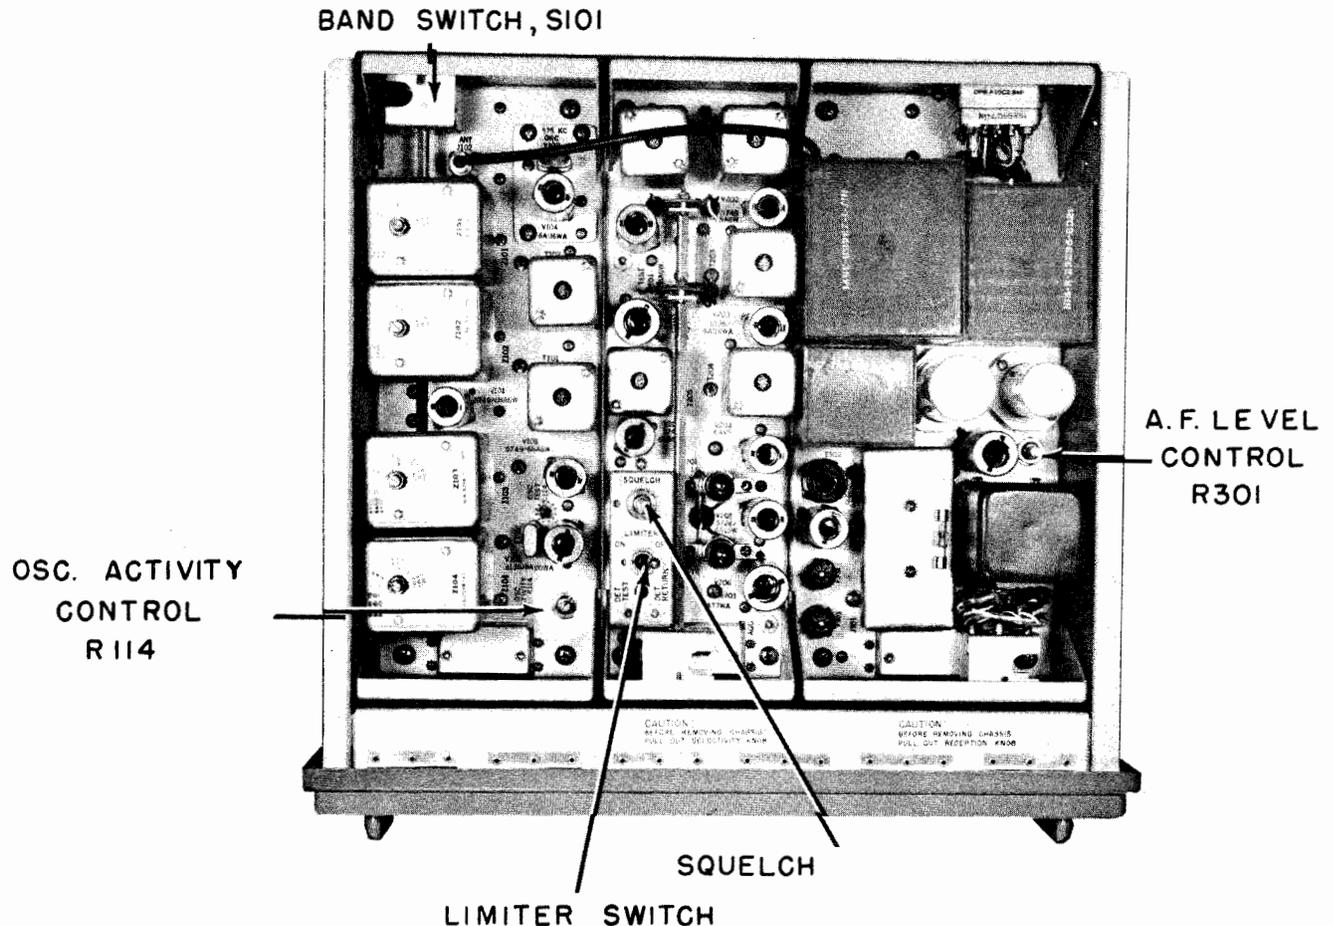

Figure 4-3. Top View of Receiver Set out of Case, Showing Chassis Controls
*b.* **CHASSIS CONTROLS.**—These controls, located on the RF, IF and Audio/Power Supply chassis as indicated in Figure 4-3 permit adjustment of various receiver functions and should not require readjustment after the initial installation, unless a change in operating conditions is required. These changes should be performed only by qualified personnel.